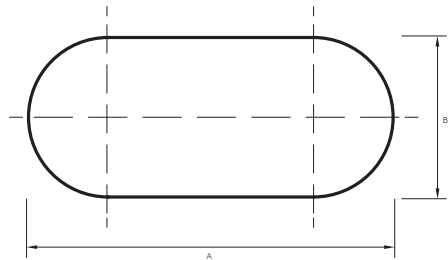

Figure 24: Flat oval ducts size
- Figure 24 shows that flat oval ducts are available in standard sizes A x B, for e.g. 361 x 76 mm